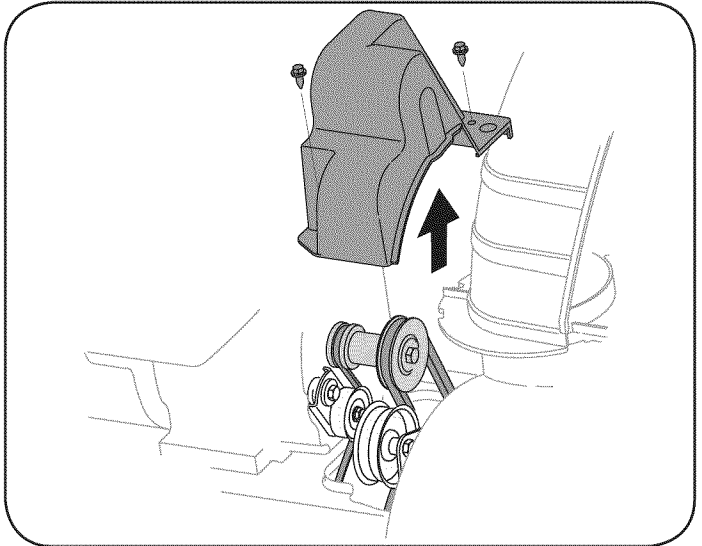

Figure 24
2. Remove the plastic belt cover on the front of the engine by removing the two self-tapping screws. See Figure 24.
- Remove the plastic belt cover on the front of the engine by removing the two self-tapping screws. See Figure 24 on previous page.